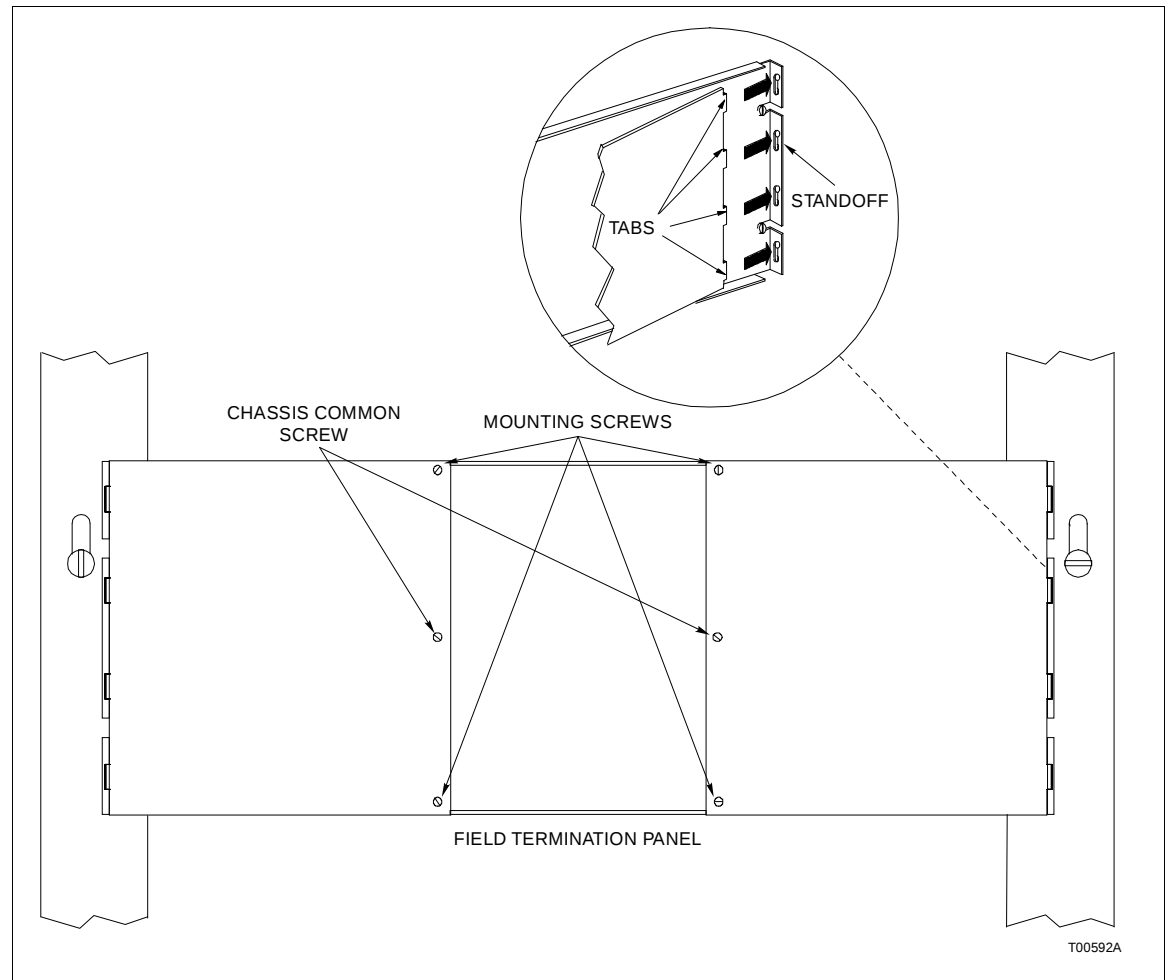

Figure 2-4. Installation for Revision A and B Hardware NTAI06
The TU mounts on a standard NFTP01 Field Termination Panel. Figure 2-4 shows how to secure the termination unit to the FTP.
3. Mount the TU to the field termination panel with two number 10, $\frac{3}{4}$ inch screws. Do not over tighten the screws. See Figure 2-4.